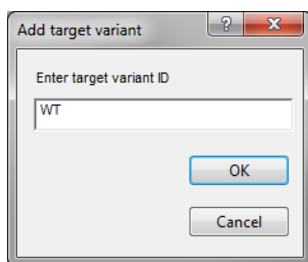

Figure 3.13: The *Targets* dialog box with two targets defined.
6.1 With the *HDA curves window* open and displaying one dye, locate the *Main window* and select **HDA > Edit targets** from its menu to call the *Targets* dialog box (Figure 3.13).